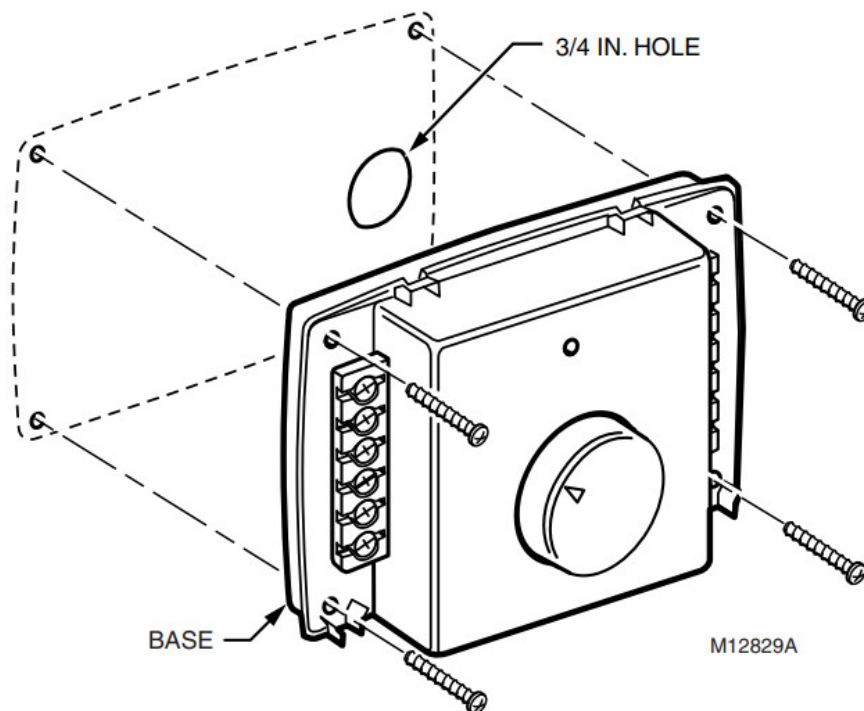

Fig. 3. Mount control on return air duct.
2. Drill 3/4 in. (19 mm) circular opening for the projection on the back of the base. See Fig. 3. Place the device on the duct and mark the mounting holes, or screw in self-tapping screws.
3. Mount the base on the duct using the four mounting screws provided. Tighten the screws until fully seated with no space between the base and the duct. See Fig. 3.